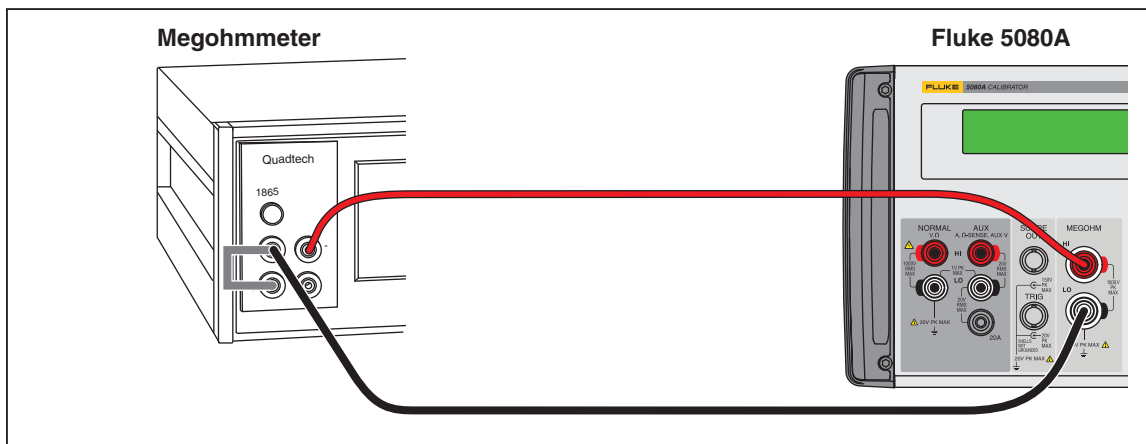

Figure 19. MEGOHM High Resistance Calibration Connections
7. Connect the Calibrator to the Quadtech 1865 Megohmmeter as shown in Figure 19. Make sure that you REVERSE POLARITY on this setup.